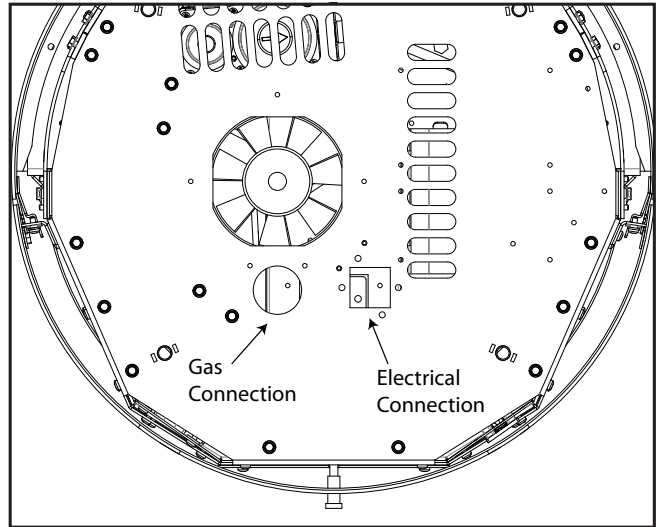

Figure 84: Gas & Electrical Connection Points (Bottom View)
4. Rewire the IEC electrical outlet and position over the hole shown in Figure 84.